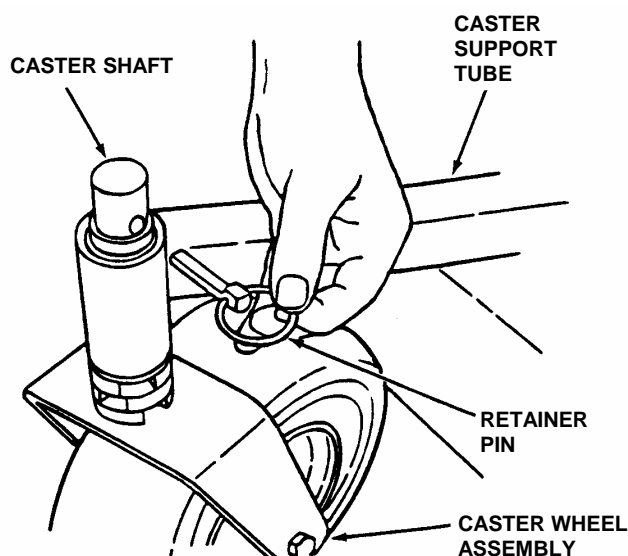

FIGURE 3.11
1. Remove the Retainer Pin from Caster Shaft. See Figure 3.11.